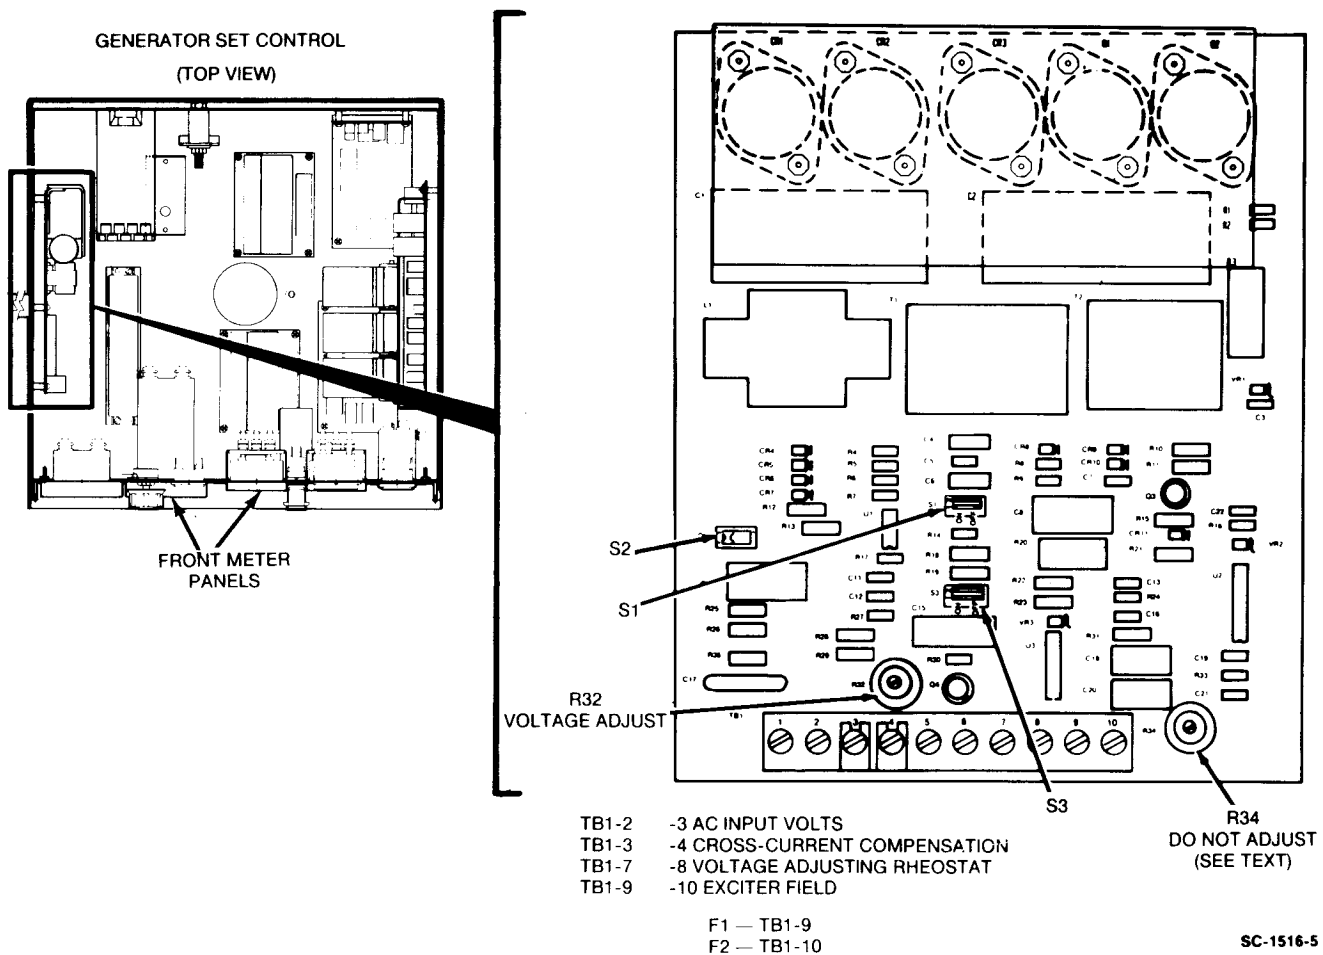

FIGURE 7-8. VOLTAGE REGULATOR LOCATION/ADJUSTMENTS
After replacement, the voltage regulator adjustment is performed as follows. Also refer to the Regulator Specifications in Figure 7-8.
1. Open the control panel doors. Refer to Figure 7-8 for the proper setting of S1 (Stability Range) and S2, S3 (Mode Selection) switches.
2. Control with AC meter option: Refer also to adjustment (L).